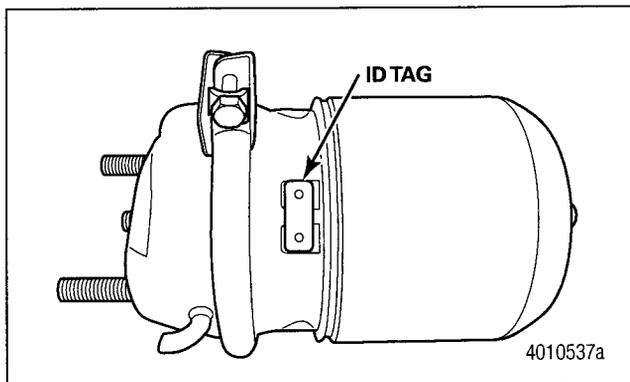
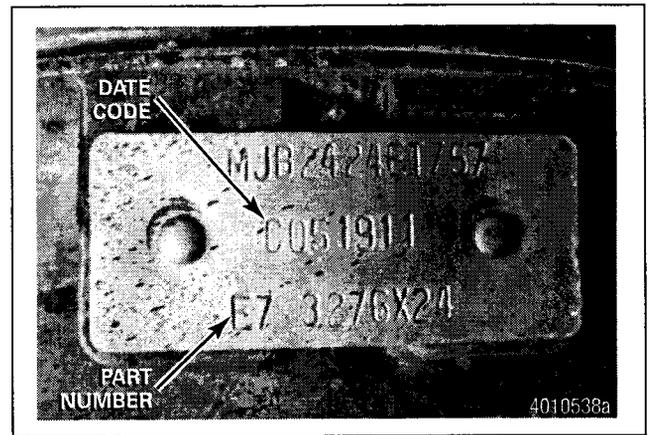

Figure 3
Figure 4
2. Locate the identification tag on the brake chamber. Figure 3.
3. Check the identification tag for a date code falling on or between the date range of November 23, 2010 and March 31, 2012. As an example, the date code shown in Figure 3 (C051911 centered in ID tag) means "built on May 19, 2011". In this example, the chamber requires replacement. Figure 4.